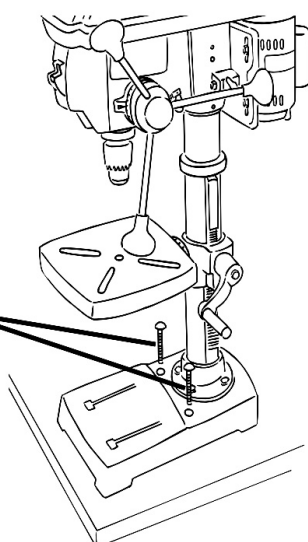

Fig. 9
9. Using the pre-drilled holes in the base, mount your drill press securely on a sturdy surface such as a work stand, workbench or counter top. See Figure 9. If your drill press is to be used in a portable application, it is recommended that you fasten it permanently to a mounting board that can be easily clamped to a workbench.